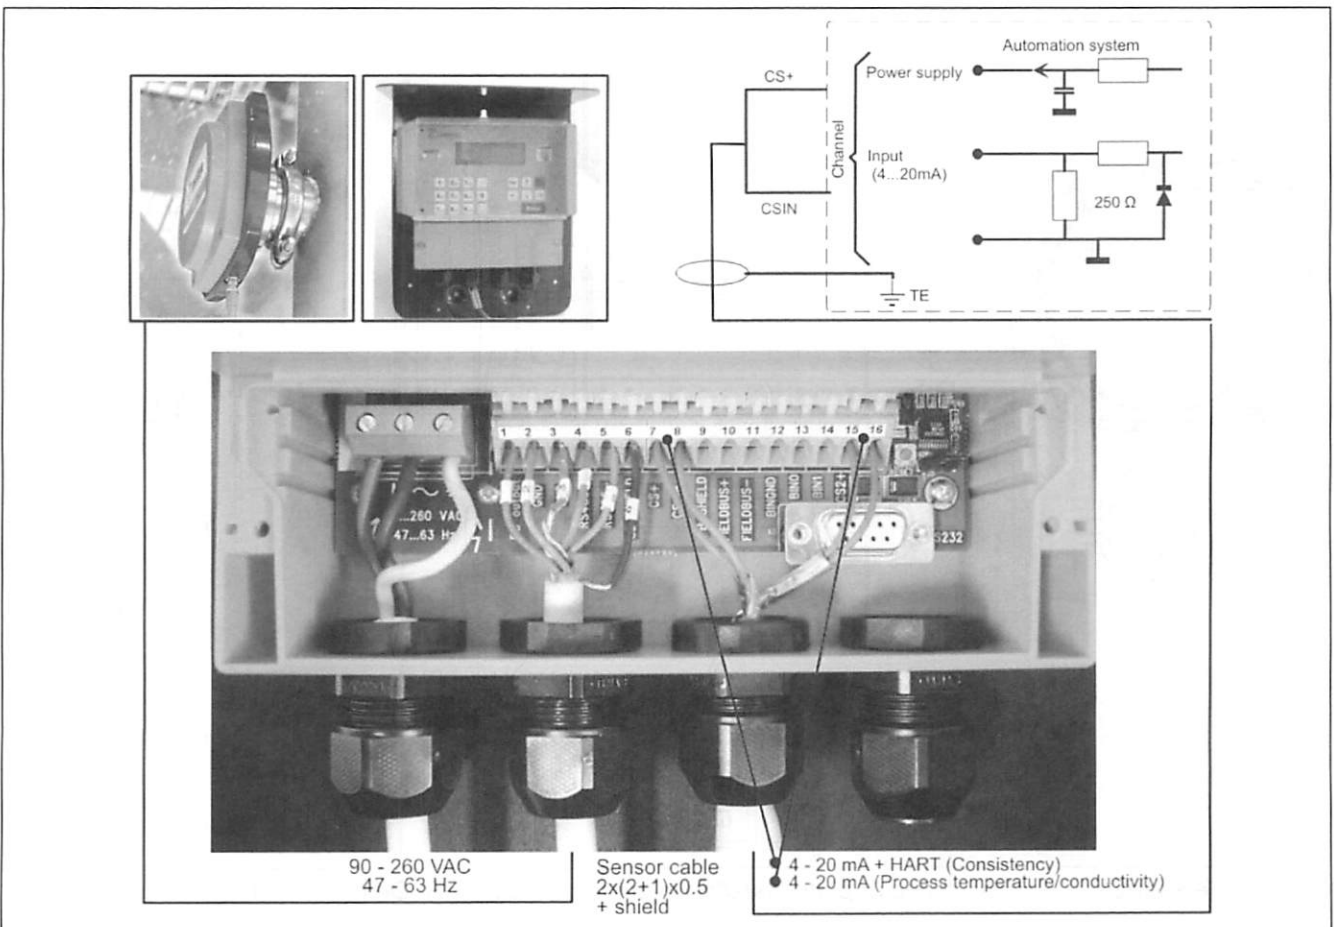

Fig. 15. Electrical connections to the TCU.
- 1. Insert the end of the sensor cable that has no connector into the TCU connector casing through the inlet and connect it as shown in Figure 15. The protective shields are connected as follows:
Insert the power supply cable 90-260 VAC into the TCU connector casing through the inlet on the left edge and connect it to the terminal block as shown in Figure 15.
block as shown in Figure 15: